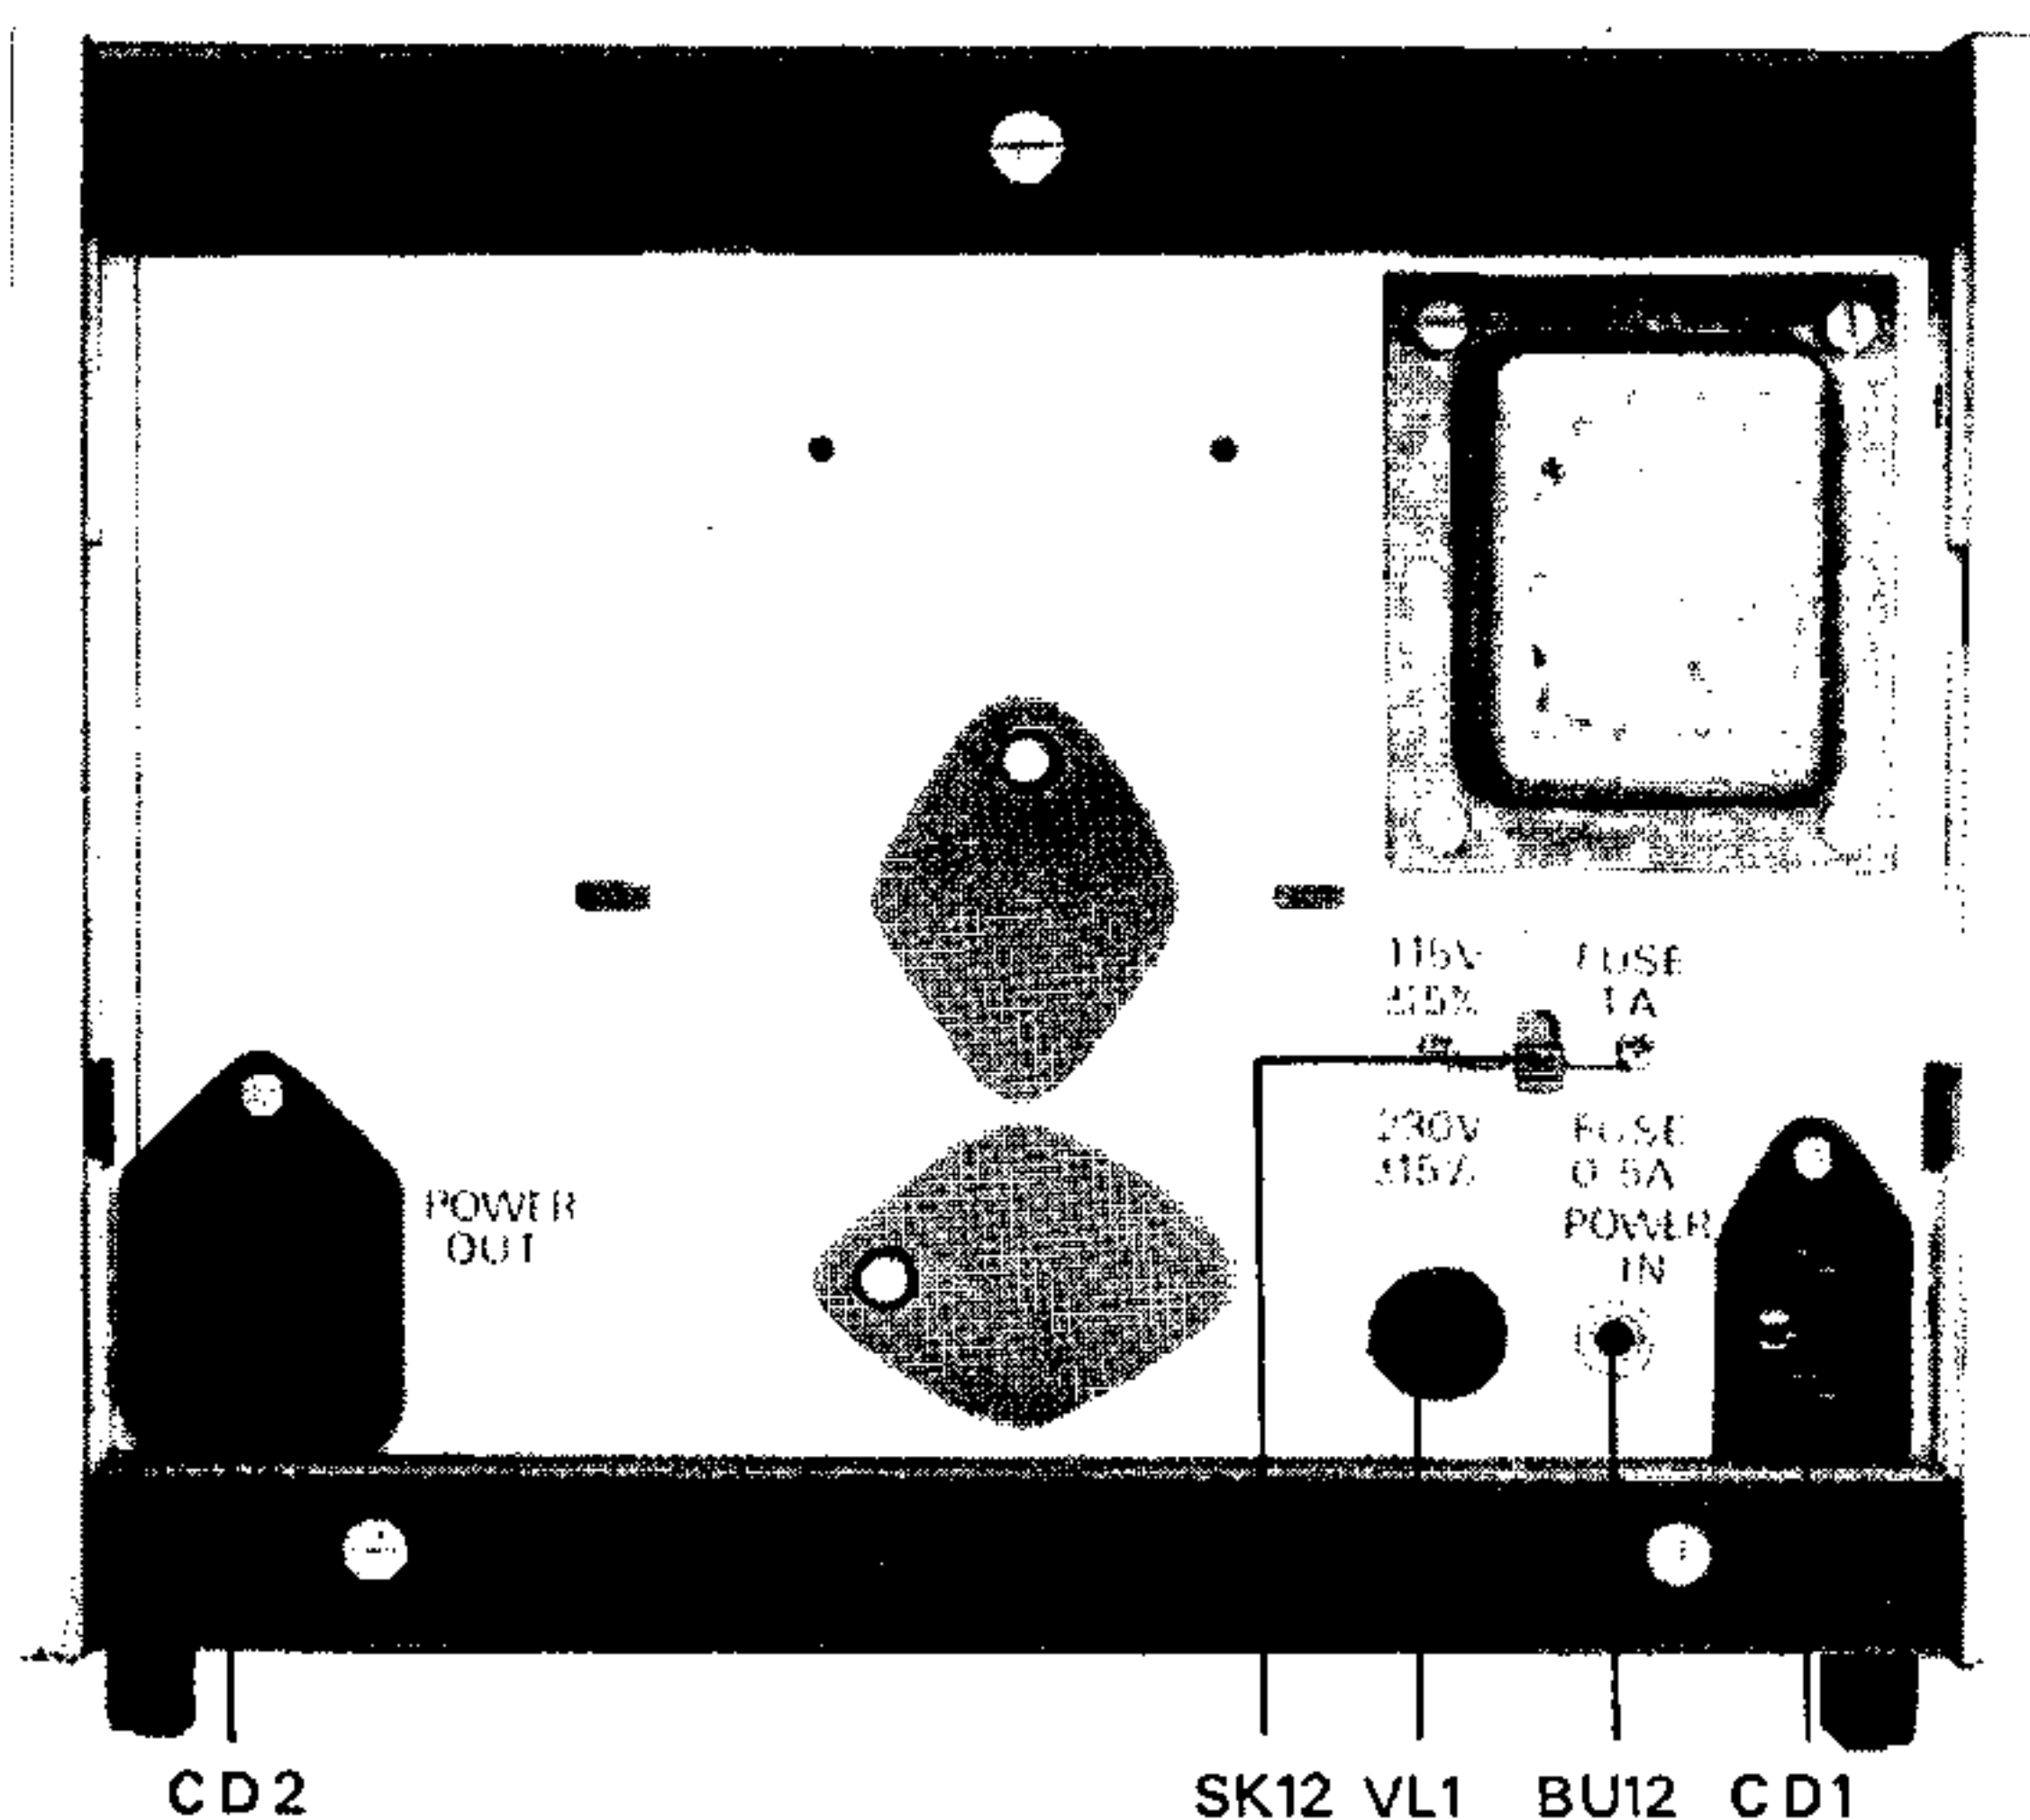

Fig. 7. Rear view
A. ADJUSTING TO THE LOCAL MAINS VOLTAGE (see Fig. 7)